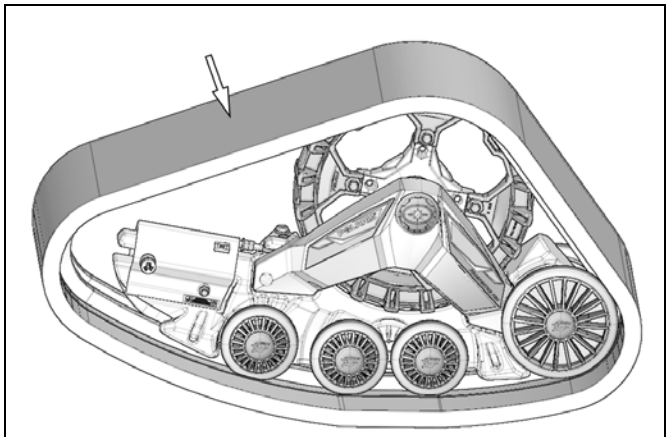

Figure 22
- Install the rubber track. Refer to Figure 22.